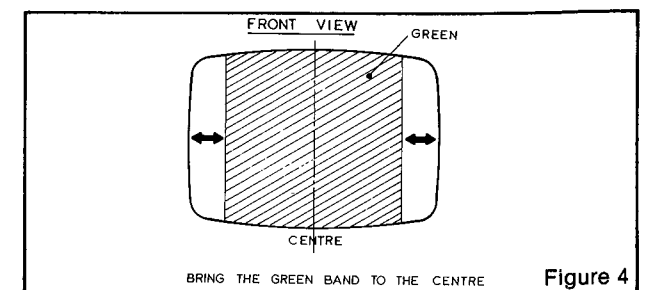

Figure 4
- 1.7 Spread the tabs of the purity magnets apart as little as necessary and rotate both rings together to center the green band horizontally on the face of the CRT (See Fig. 4).